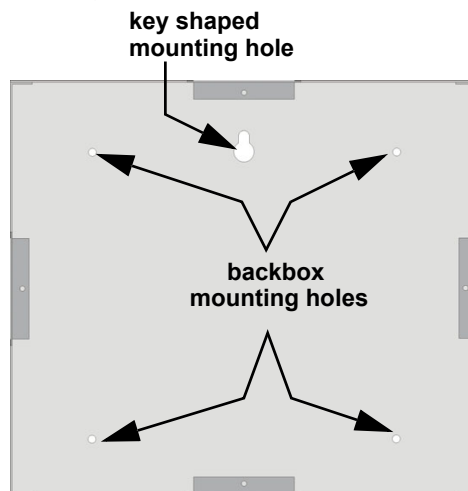

Figure 4.15 Backbox Surface Mount Holes
- To properly mount the backbox, insert a single screw into the key shaped mounting hole. Do not tighten all the way. See Figure 4.15. Place a level on top of the backbox, with the backbox level insert the rest of the mounting screws.